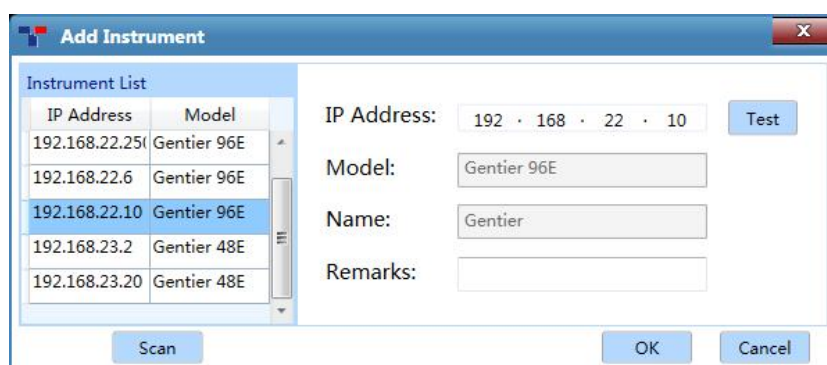

Figure D-3.2a. Instrument Management Interface - Add Instrument Window
a. Click < **Add** > and the add instrument window will automatically pop up, as shown in figure D-3.2a.